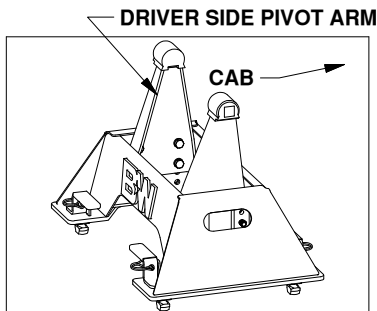
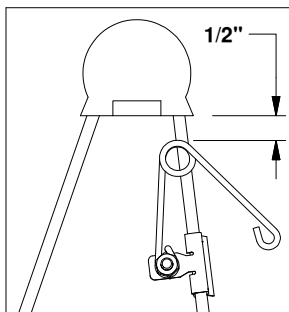

Figure B3: View of base.
Figure B4: Driver side pivot arm.
- Attach kit.** Locate the flange which will be closest to the truck cab on the driver side pivot arm, see Figure B3. The clip should be placed so that when the spring's coil is in the line with the edge of the arm there will be 1/2" of clearance between the bottom of the polyurethane bushing and the top of the spring, see Figure B4. Drive the clip securely onto the flange with a hammer.